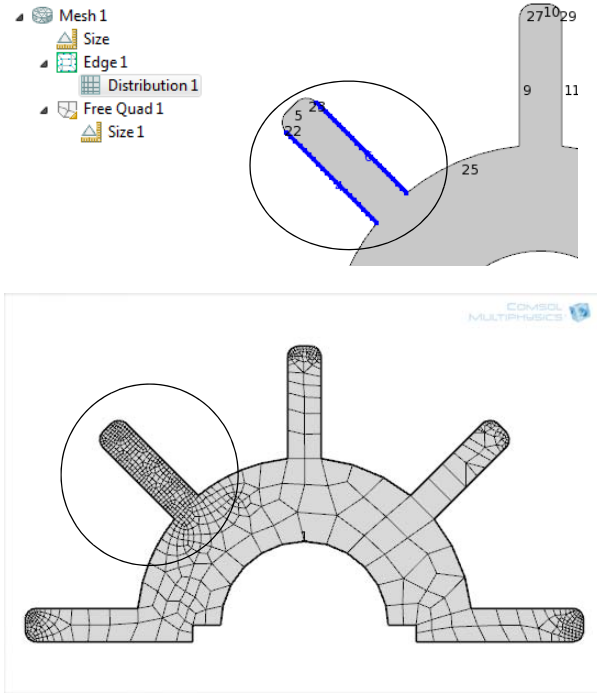

Figure 19-4: Adding a distribution attribute to two edges and rebuilding the mesh defines a finer mesh.
- 6 Click **Build Selected** () . In this example, the mesh elements are generated along the selected edges (Figure 19-4).